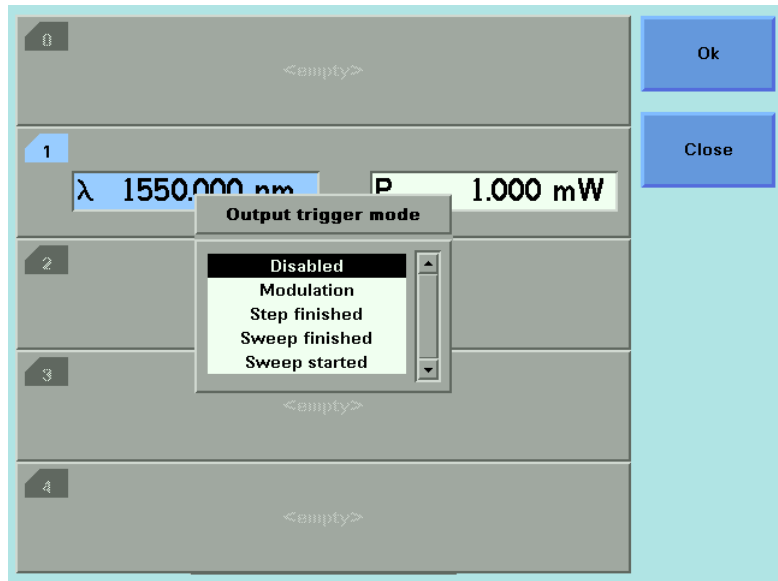

Figure 22 Output Trigger Mode
- 3 Move to <Output Trigger Mode>, by using the cursor key, and press *Enter*. You will see the screen in Figure 22 .